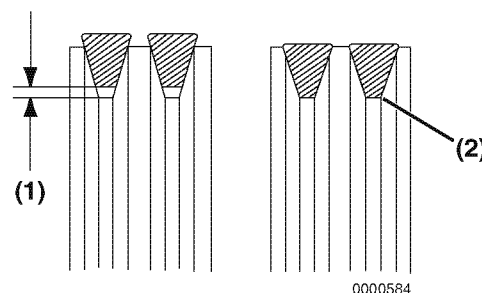

Figure 5-6
- Tighten the V-belt to the proper tension. There must be clearance (**Figure 5-6, (1)**) between the V-belt and the bottom of the pulley groove. If there is no clearance (**Figure 5-6, (2)**) between the V-belt and the bottom of the pulley groove, replace the V-belt.
- Inspect the condition of the used V-belt. There must be clearance (**Figure 5-6, (1)**) between the V-belt and the bottom of the pulley groove. If there is no clearance (**Figure 5-6, (2)**) between the V-belt and the bottom of the pulley groove, replace the V-belt.